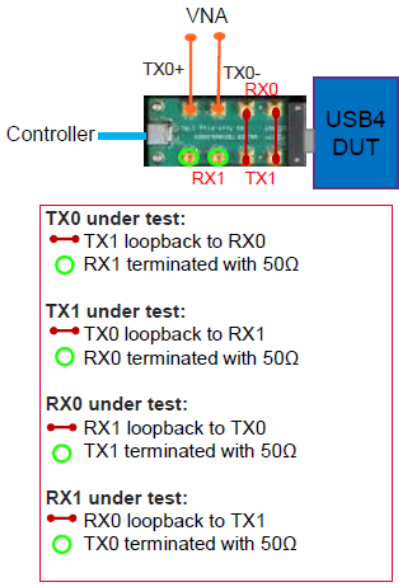

Figure 216 SMP test fixture - Tx/Rx lane switching
- 8 In case of SMP test fixture, Tx/Rx lane under test can be switched as shown in Figure 216.